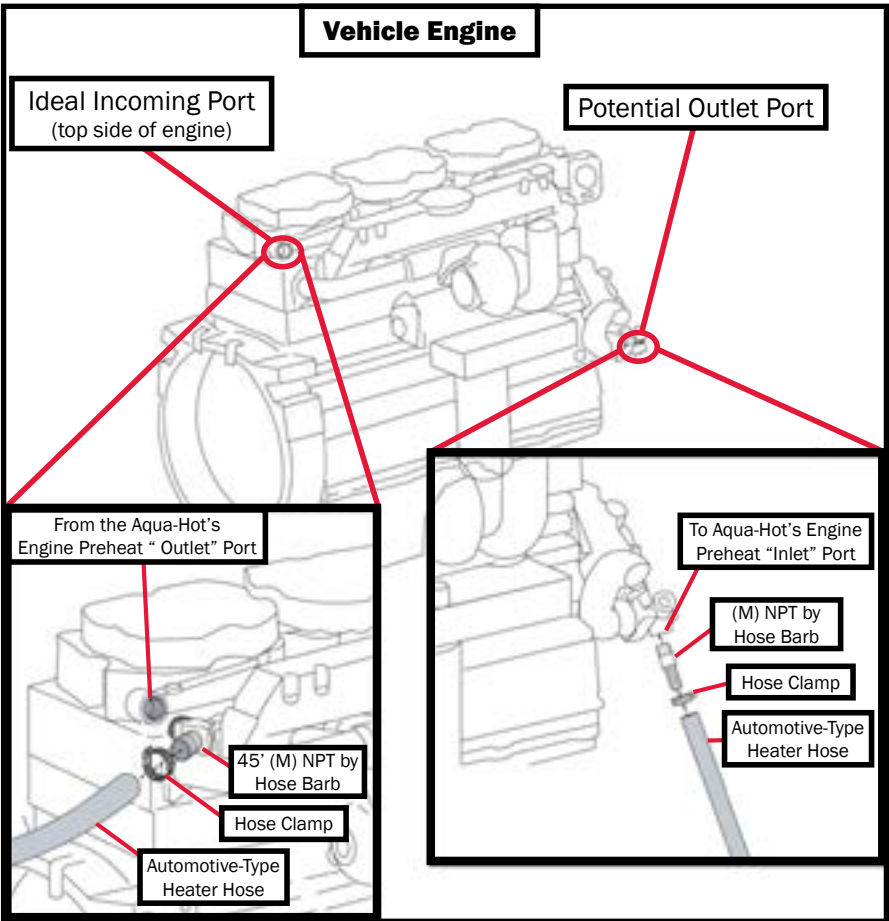

Figure 41
- The inlet and outlet ports on the vehicle's engine should be kept as far apart as possible. This will ensure that the entire engine is thoroughly preheated. See Figure 41.
- The engine's inlet port is where the heated coolant is transported to the engine block from the Aqua-Hot. This port should be a high connection point on the engine block. Refer to Figure 41.
- The engine's outlet port is where the engine's coolant is transported to the Aqua-Hot. This port should be a low connection point on the engine block or a pressure outlet port on the engine's water pump (Figure 41).
**NOTE:** The labels should indicate whether the plumbing line is transporting coolant to the Aqua-Hot, or if it will be transporting heated coolant to the vehicle's engine. Reference Figure 41.
5. Install and clamp both the inlet and outlet engine plumbing lines, automotive-type heater hoses to the engine's plumbing fittings. Reference Figure 41.